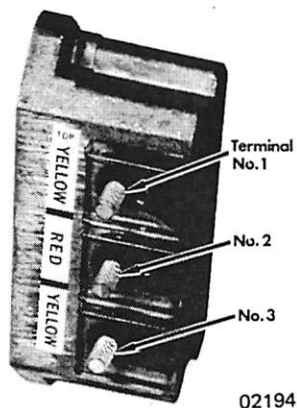

Figure 2. Rectifier Terminals
1. Remove rectifier from engine. (Figure 2)